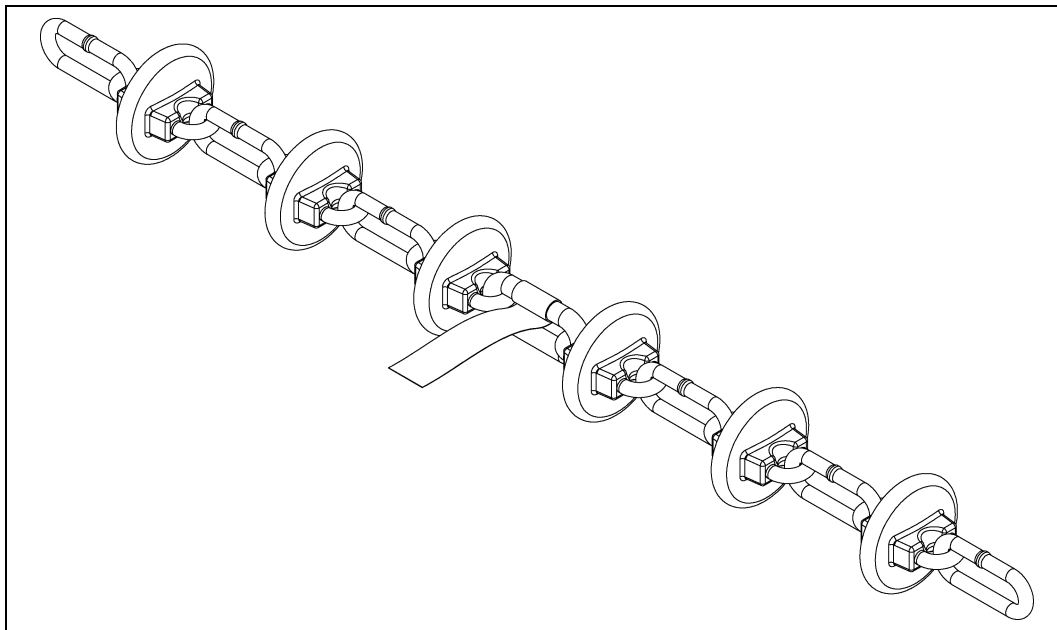

Figure 13G Coupling - Tape Correct
6. Connect one end of a new section of chain and disks to the fish tape. *(See Figure 13G.)*